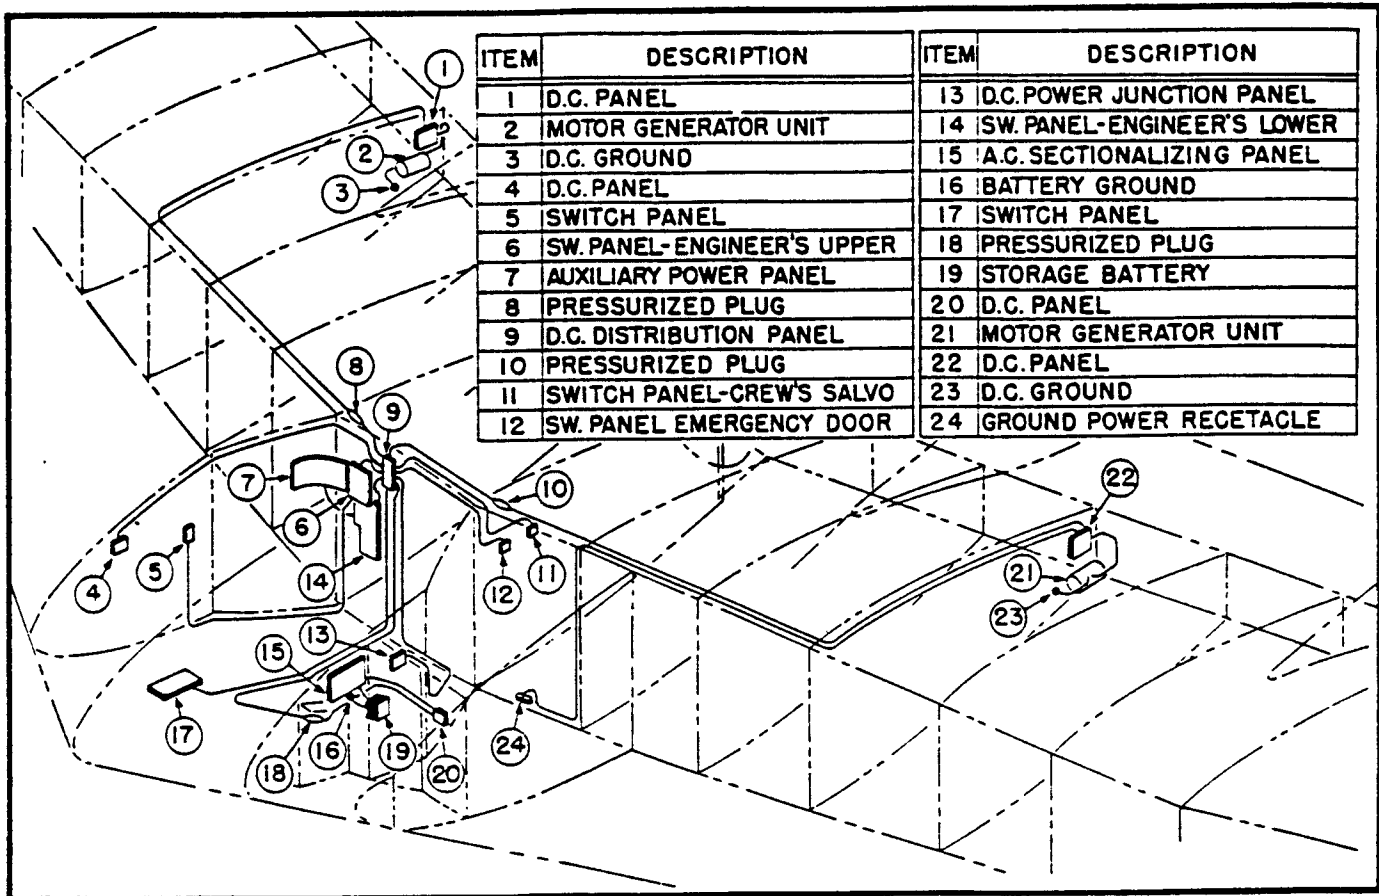

Figure 13. DC Power Distribution-Schematic
(5) D.C. POWER DISTRIBUTION. (See figures 13 and 27.)